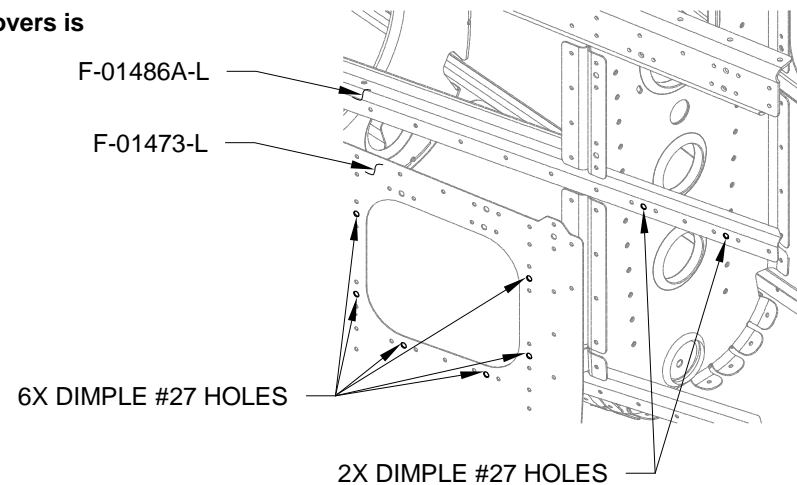

FIGURE 2: DIMPLE FOR PLATE COVERS WITH FLUSH SCREWS
Step 11 (Optional): Dimple the #27 Holes in the F-01473-L & -R Side Skins as shown in Figure 2.
Dimple the #27 Holes in the F-01486A-L & -R Stiffeners as shown in Figure 2.